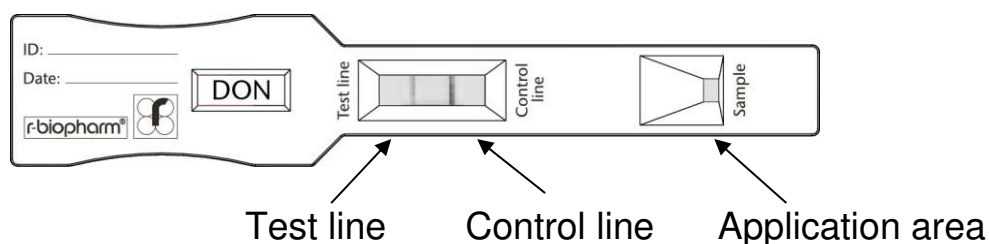

Fig. 1: RIDA®QUICK DON RQS ECO test strip.
- Apply 100 µL of the sample solution (see chapter 8. Sample preparation) on the application area of the test strip (see Fig. 1).
The left line in the reaction area is the test band (test line, see fig. 1). Its appearance and intensity depends on the DON concentration of the sample. The sample is contaminated with DON, if the control band (control line) is visible and the test band (test line) is also visible.